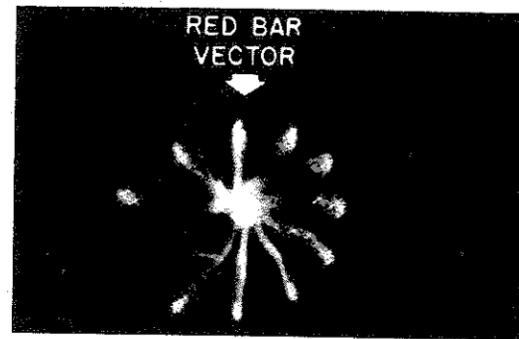

Figure 10. Typical "rosette" pattern. Pattern shape will vary somewhat with different receivers and color bar generators.
In the vector method of AFPC alignment, a circular rosette pattern will appear on the WO-33B screen. The pattern will have ten petals, or vectors, one for each color bar. The illustration in Figure 10 shows a typical rosette pattern. However, the pattern will vary substantially, and the shape of the petals will vary considerably with different types of color bar generators and with different TV receivers.
4. Set the 'scope FUNCTION Switch to "H IN", and adjust the H GAIN, VOLTAGE RANGE and V CAL Controls to obtain a circular rosette pattern on the CRT. The illustration in Figure 10 shows a typical rosette pattern. Note that the pattern has ten (10)
Note: The demodulation system used in some receivers will provide a pattern that is upside-down from that shown in Figure 10. With this difference in mind, the procedure as described below can be followed.